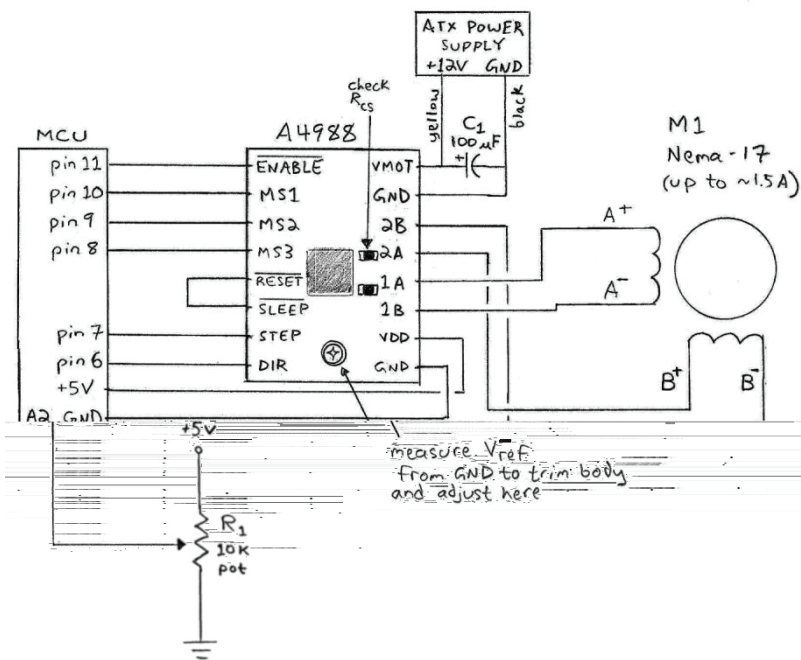

Figure 6-27. Circuit diagram for Activity 6-2(b): Nema-17 stepper motor with A4988.
- 1) Assemble the Nema-17 circuit following Figure 6-27 below. Do not power on the ATX power supply until after completing all the connections, or the motor driver may get damaged.